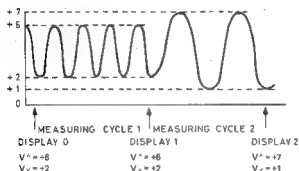

Fig. 18.  $V^{\wedge}$  and  $V_{\vee}$  measurement in INT START mode.
- Internal starting of measurements (INT START, fig. 18).